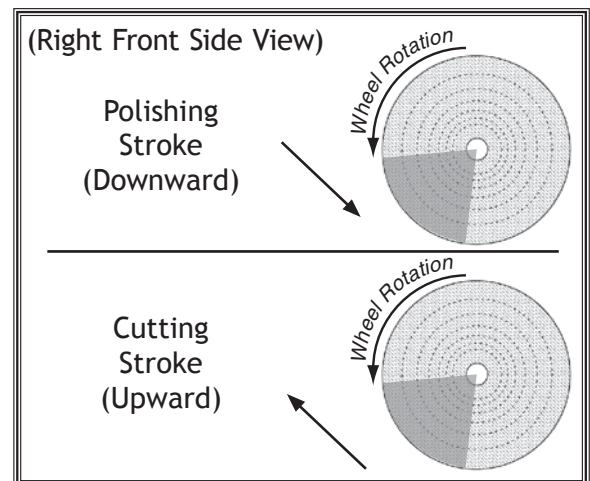

Figure 30. Cutting and polishing strokes.
- Always use an upward stroke with heavy to moderate pressure for cutting. Use a downward stroke with light pressure for polishing. See **Figure 30**.